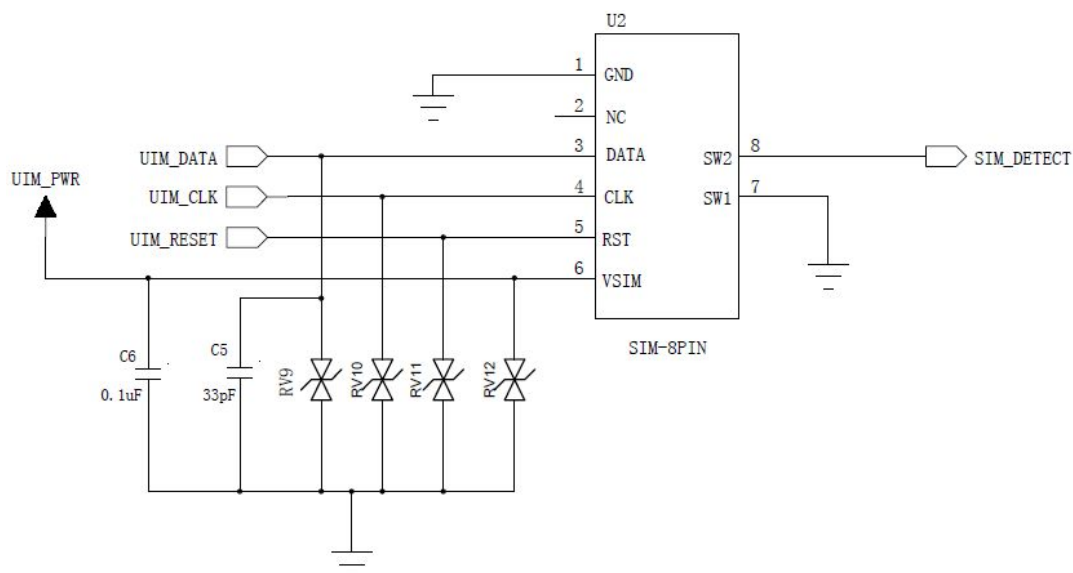

Figure 5-7 Normally Closed SIM Circuitr Reference Design
1) For normally closed SIM connector circuit, as shown in Figure 5-7. SIM\_DETECT connects Pin8 (SW2) of U2, Pin7 (SW1) short GND. When there is no SIM card, SW2 and SW1 short, SW2 is low level. When SIM card inserted, SW1 and SW2 disconnect, SIM\_DETECT is pulled high.